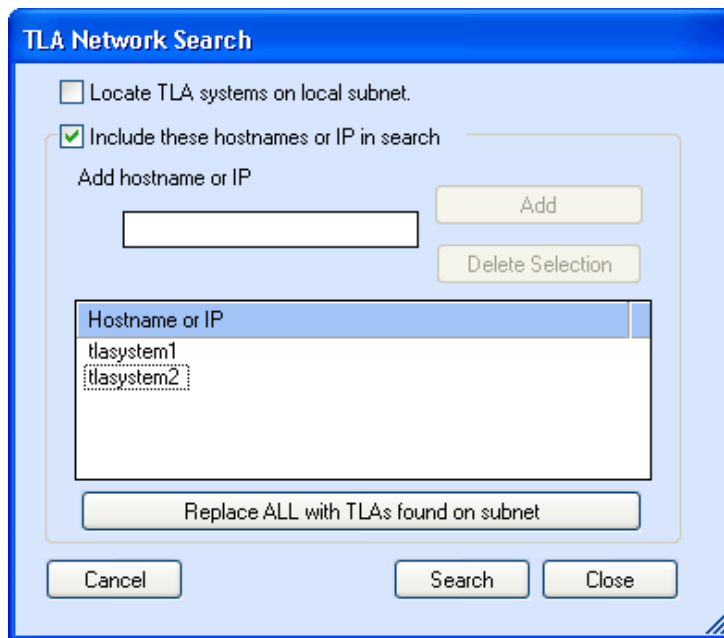

Figure 26: TLA Network Search dialog box
- Click  (Search icon) to open the TLA Network Search dialog box. The search for instruments returns with the name of the mainframes that are connected to the master mainframe. (See Figure 26.)